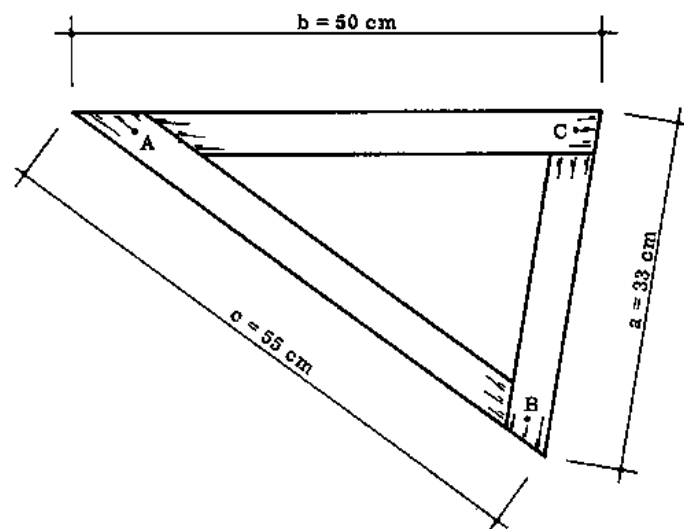

Fig. 1
Before you can start laying the archstones, the abutments with their skewbacks must be prepared so that the springers can be laid at the correct angle. To be sure that the angle of the skewback is correct, the Rural Builder can use the template described below (Fig. 1).
- MAKING THE TEMPLATE: The template is made from wooden battens. It is simply a triangle with the outside dimensions as follows: side "a" = 33 cm, side "b" = 50 cm, and side "c" = 55 cm (Fig. 1). The angle at C is the angle we need to mark the skewback.
Use three battens that are a few centimetres longer than the measurements required. This allowance can be cut off when the template is assembled. Plane one edge of each until it is exactly straight and mark the length on this edge. Nail the battens together as in Fig. 1; or make accurate halving joints and join the pieces together with wing nuts instead of nails, so that they can be taken apart and put back together when they are needed in the future. The corners should be marked on both sides with the letters A, B and C, so that the ends are not accidentally mixed up when it is reassembled.